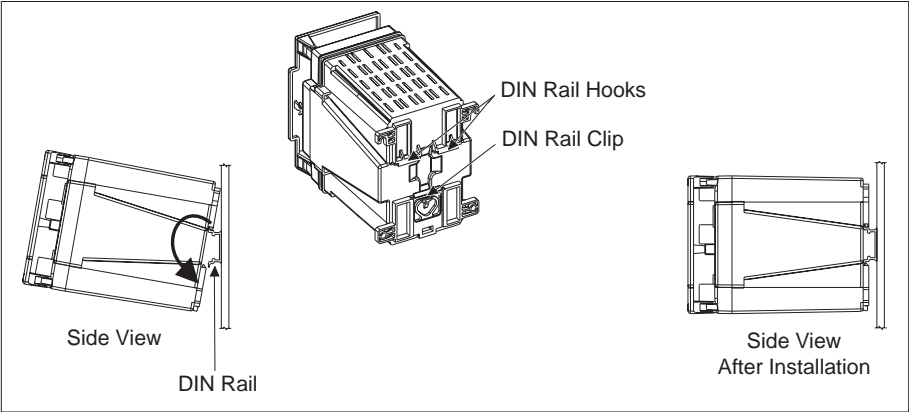

Figure 4-4: Mounting power meter on 35 mm DIN rail
2. Mount a piece of 35 mm DIN rail in the desired location. *Note: The DIN rail **must** be horizontal.* Position the power meter in front of and slightly above the DIN rail (figure 4-4).